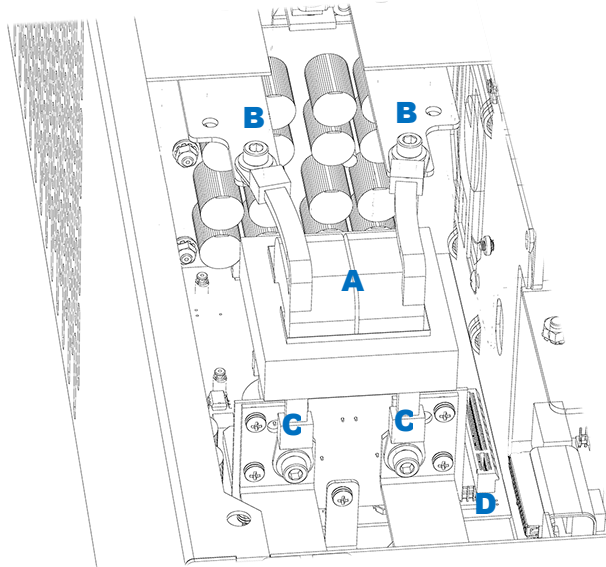

Figure 48 Common-Mode Choke
2. Remove the common-mode choke **A**. See Figure 48 for all items.
3. Remove the 4-pin connector (not depicted in Figure 48) that plugs into the carrier board at **D**.
- Replace the common-mode choke **A**. See Figure 48 for all items.